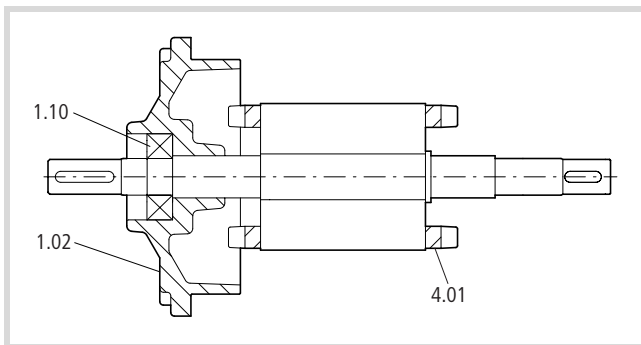

Figure 27: Rotor (4.01) with DE roller bearing (1.10) and DE end shield (1.02)
- ① Mounting sleeve
- ② Counter bearing
**All other types (→ Fig. 27)**